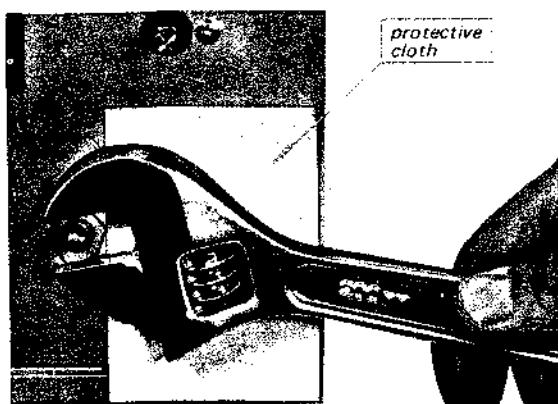
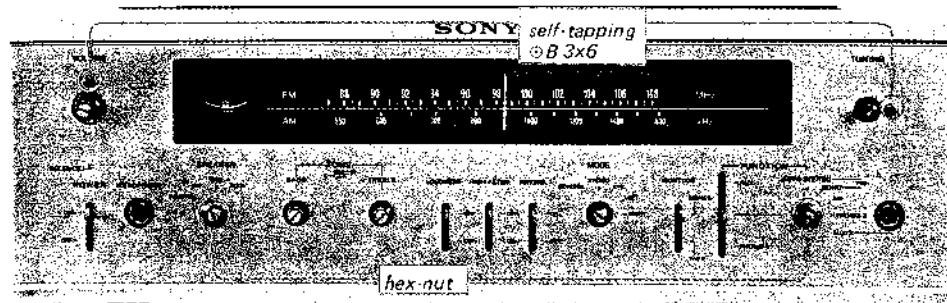

Fig. 2-4. Hex nut removal
Fig. 2-3. Front panel removal
3. Remove the two self-tapping screws ($\#B\ 3\times6$) and two hex-nuts securing the front panel to the front sub-chassis as shown in Fig. 2-3. Place a piece of cardboard or cloth between the wrench and front panel to avoid marring the panel as shown in Fig. 2-4. Now the front panel is free for servicing.